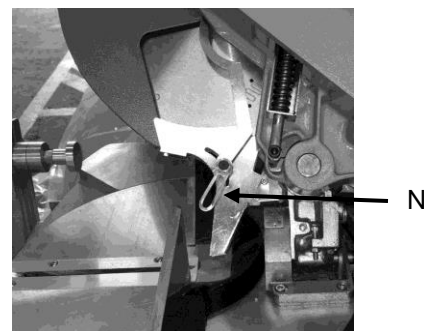
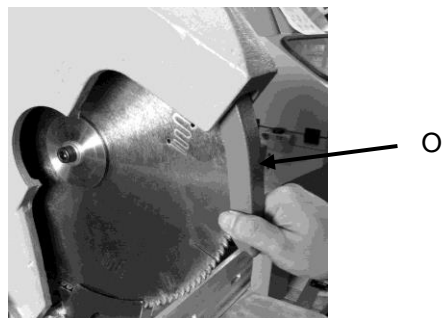

Fig 14
Fig 15
2. In order to release the movement of the internal guard by push the point N (Fig 14), and push up the guard O (Fig 15).